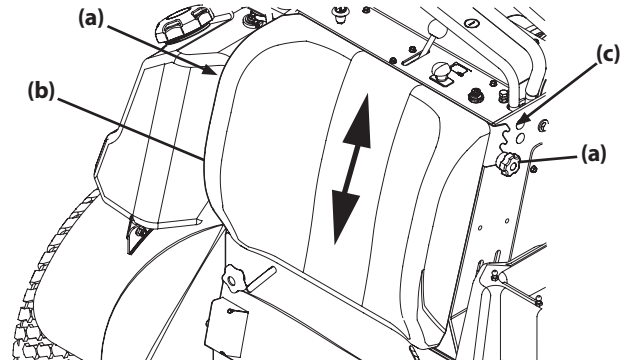

Figure 5
1. Loosen the two star knobs (a) securing the leg pad (b) to the mower. See Figure 5